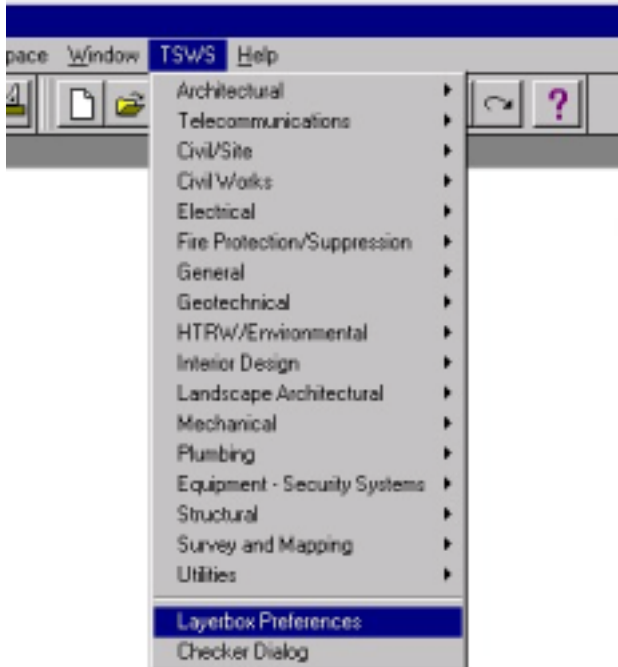

Figure 4 – Opening the Layerbox Preferences
2. Pick “Layerbox Preferences” from the TSWS menu listing (Figure 4).